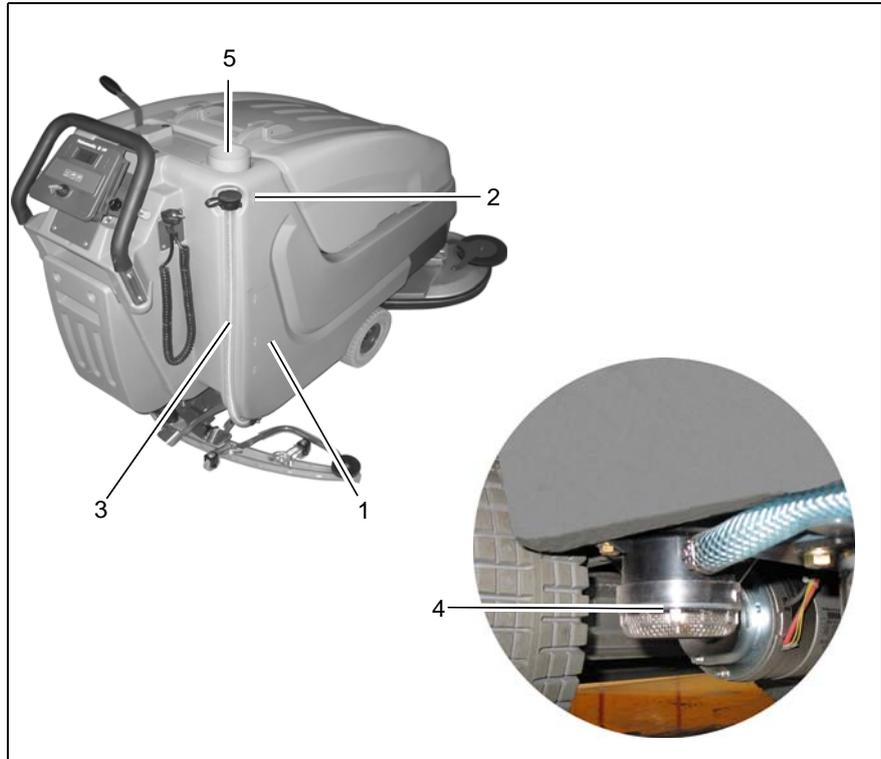

Fig.8
Fill fresh water tank (Fig. 8/1) before work or as required. Park vehicle on level ground. Open tank lid (Fig. 8/5) and fill tank with fresh water up to the maximum (1/1 marker) (Fig. 8/2).
Alternatively, filling of the machine via quick coupling (Fig. 8/6) is available. Before doing so, connect the filling hose of the dosage unit and the quick coupling. The floater valve automatically closes after the maximum filling level has been attained.
Park vehicle such that the fill level hose (Fig. 8/3) is located above the drain aperture in the floor. Take fill level hose from holder and remove lid.
Check fresh water filter (Fig. 8/4) at weekly intervals and clean or replace if required.
1. Empty fresh water tank (Fig. 8/1) entleeren, see paragraph 5.5.2.